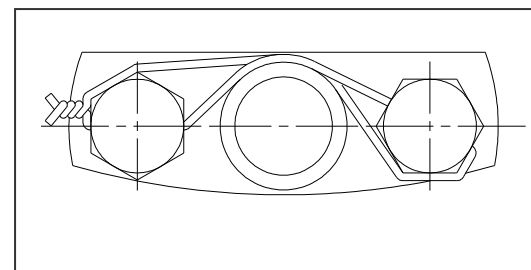

Figure 5-17
- (5) Put the spring guide with the spring back on the beta rod and insert to the hub.
- (6) Install the cover cap back on the hub. Tighten the screws and secure them against each other with 0,8 mm (0.032 inch) stainless steel wire according to Figure 5-17.
- (7) Install other cover caps in the same way.